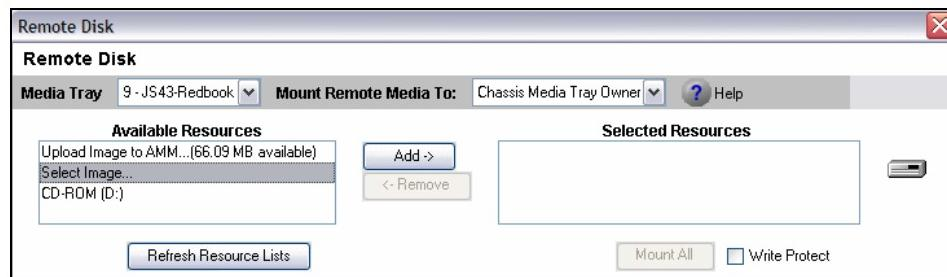

Figure 7-85 Select image option
6. After selecting the Remote Drive option, you will see the Remote Disk window appear. Select the **CD ROM** and/or **Select Image** option. You can use either or both. Figure 7-85 on page 329 provides an example of the Select Image option.